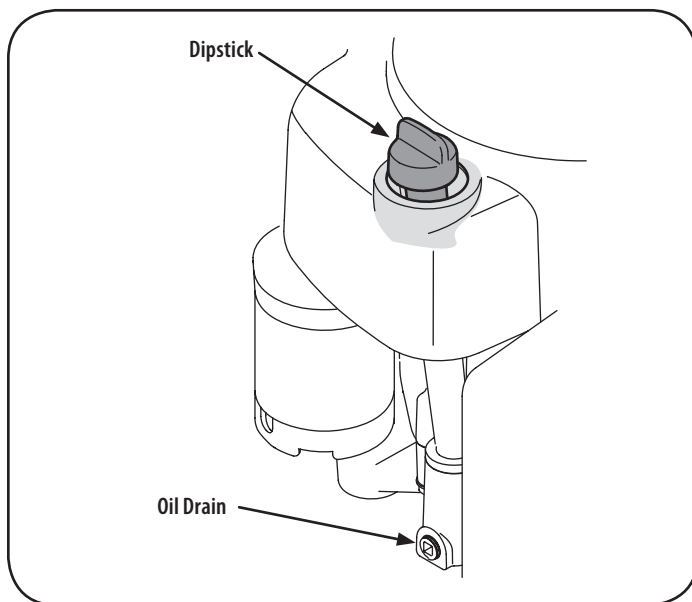

Figure 10
1. Remove the dipstick, see Figure 10, and wipe with a clean cloth.
4. Remove the oil fill cap/dipstick from the oil fill tube. See Figure 10.